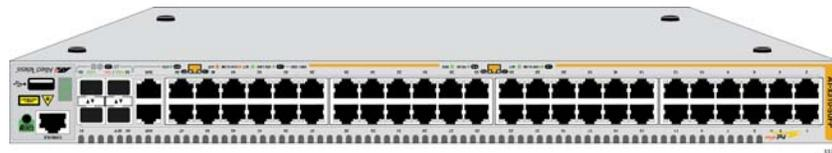

Figure 17. Turning the Switch Upside Down
1. Place the unit upside down on a level, secure surface. Refer to Figure 17.